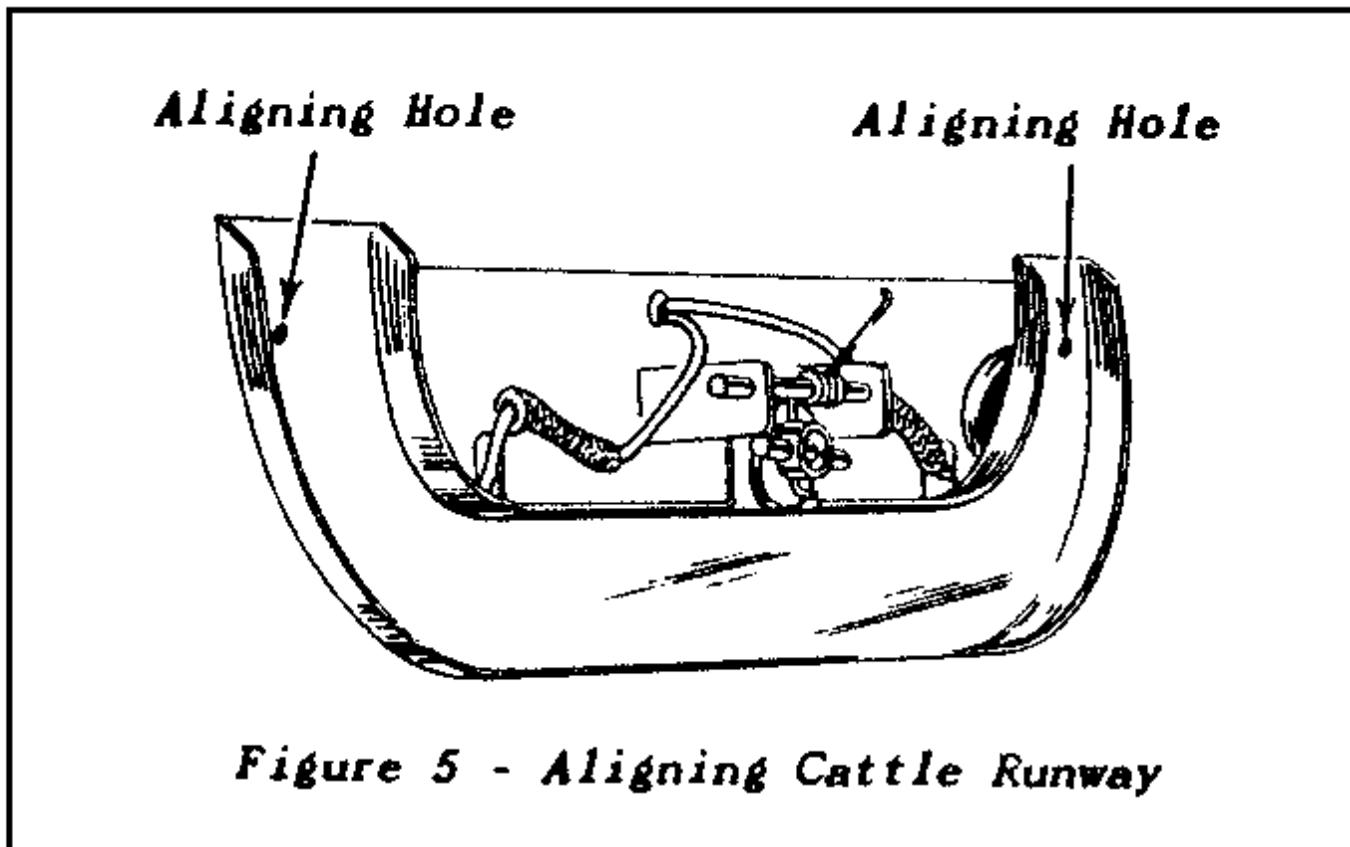

Figure 5 - Aligning Cattle Runway
6. *Replacing Cattle Runway.* Clean out adhesive grommet seats in car floor thoroughly, scraping out residue and using carbon tetrachloride (Carbona). To apply adhesive grommets, dip them in carbon tetrachloride, then set them into the seats and place runway on top using the aligning holes (See Figure 5) as guides. Do not depend on these holes to give perfect alignment, but check by moving the plunger in the plunger tube.